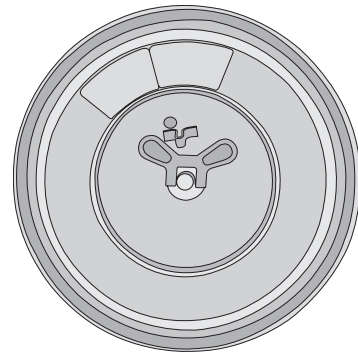
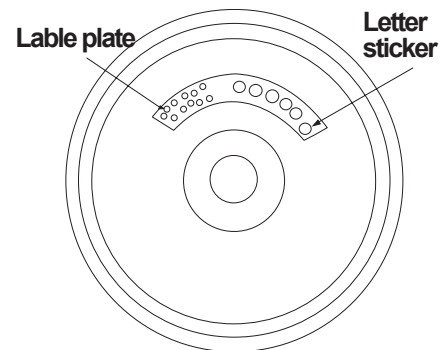

Figure 4-37
Figure 4-39
- Remove the butterfly-shaped nut (1) and the outer filter element (Figures 4-37 and 4-38), and clean the inside of the air cleaner's housing. Clean and check the outer filter element (For the cleaning method, See the "Outer filter element cleaning method"). For every time the outer filter element is cleaned, tear off one letter sticker on the inner element's label plate (Figure 4-39), and install the cleaned outer filter element.